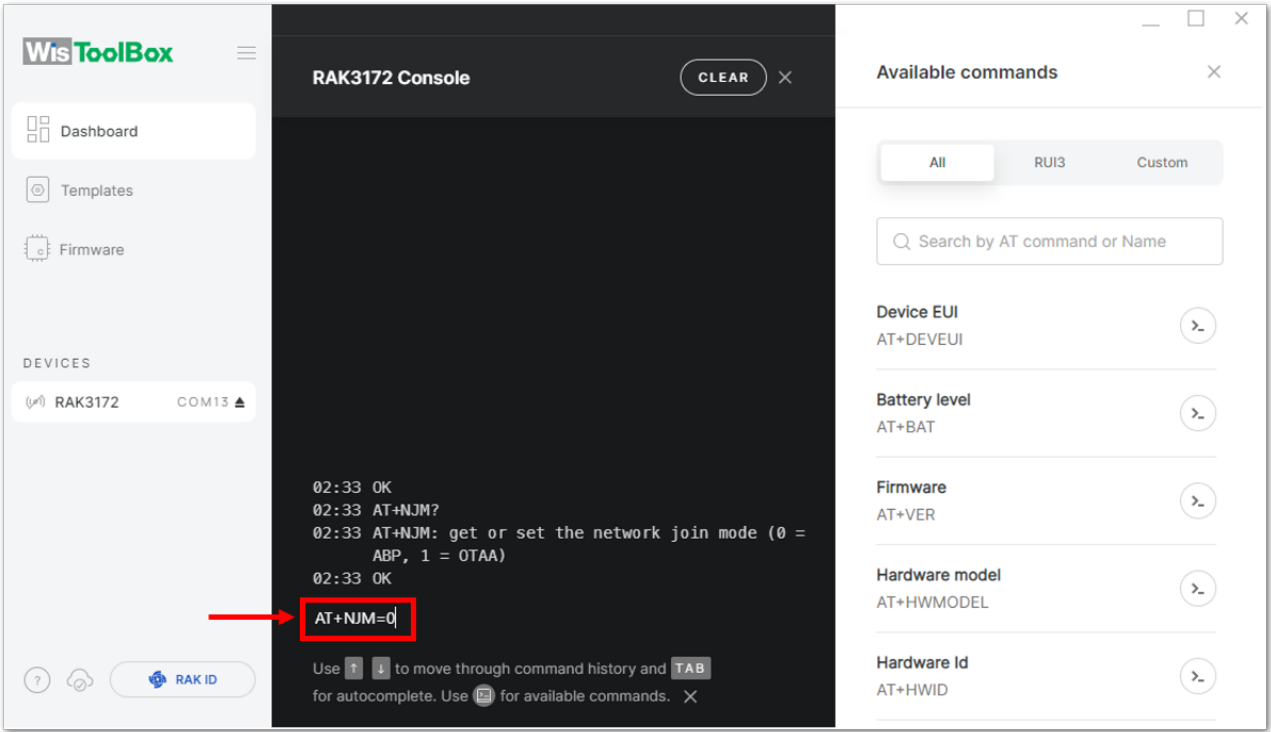

Figure 166: Setting up your Console
8. Then configure the LoRaWAN join mode to **ABP**. You can check what parameter you will input by typing **AT+NJM?** then **Enter** into the console terminal. For **ABP**, you should input **AT+NJM=0** then press **Enter** as shown in Figure 166.